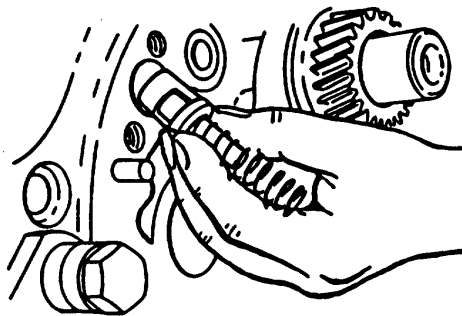

FIGURE 3-39. Oil Bypass Valve Installation
- Remove oil bypass valve and spring, refer to FIGURE 3-39.
- a. Install valve and spring in bore of engine block, refer to FIGURE 3-39.